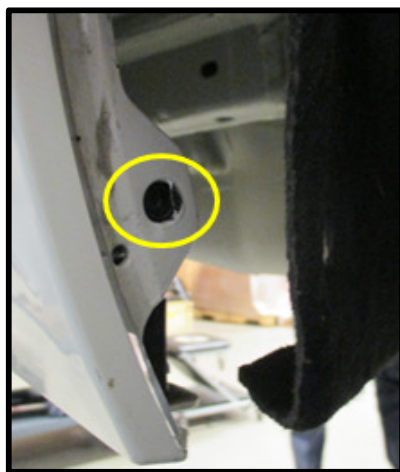

Figure 3a
- Remove rear fascia:** Gently pull up from the rear wheel well panel each side, unclipping the tabs inside. Work up to taillights and continue to gently remove along plastic tail light support. Using a small screwdriver or trim tool push down on cleats between the fascia and tail lights as needed. Continue to remove along inside bottom to the trunk, lifting fascia up from bottom as needed. Carefully pulling the fascia away from the vehicle. Use care at lower part of wheel well there are (2) fixed pins, carefully work fascia over pins (see figure 3a). If present disconnect any wiring harness or sensor from fascia. Both sides. Note: Use trim tool or screwdriver near corner – tight fit. See figure 3.
- Remove bumper:** Remove bumper (7) bolts (M13 socket and socket extension), lift up as needed to remove bumper. Remove and save for reinstallation.
4b. Remove rear fascia: Carefully pulling the fascia away from the vehicle. Use care at lower part of wheel well there are (2) fixed pins (see figure 3a), carefully work fascia over pins. If present disconnect any wiring harness or sensor from fascia. Both sides. Note: Use trim tool or screwdriver near corner – tight fit. See figure 3.